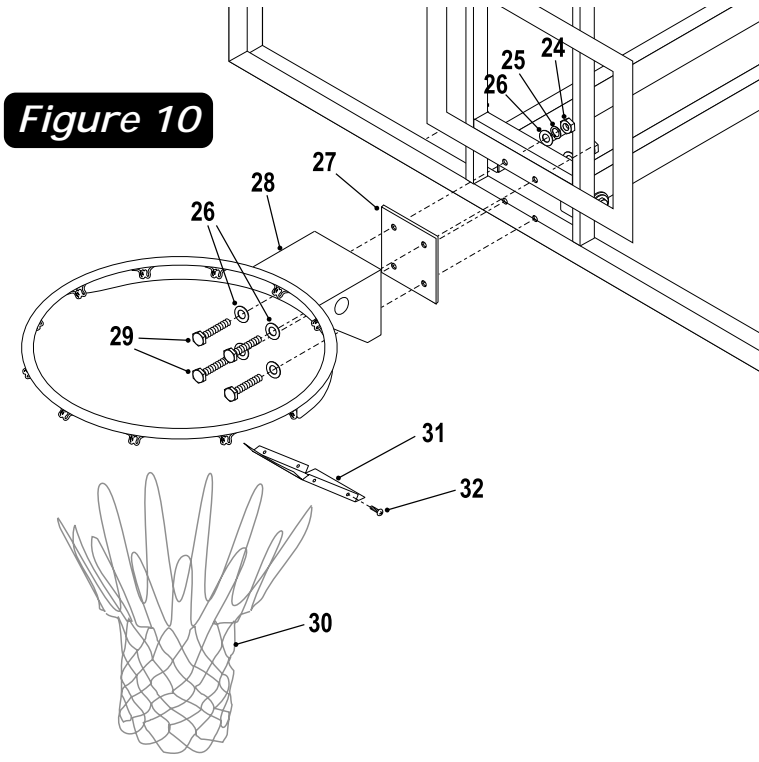

Figure 10
- Remove protective backboard covering and mount Goal Assembly (#28) and Rim Pad (#27) to Backboard, as shown in Figure 10, using four bolts (#29), eight washers (#26), four lockwashers (#25) and four nuts (#24). Tighten fasteners finger tight, leave them loose enough to level rim.
- Attach Rim Cover Plate (#31) using four screws (#32). See Figure 10. CAUTION! Never use rim with coverplate removed!